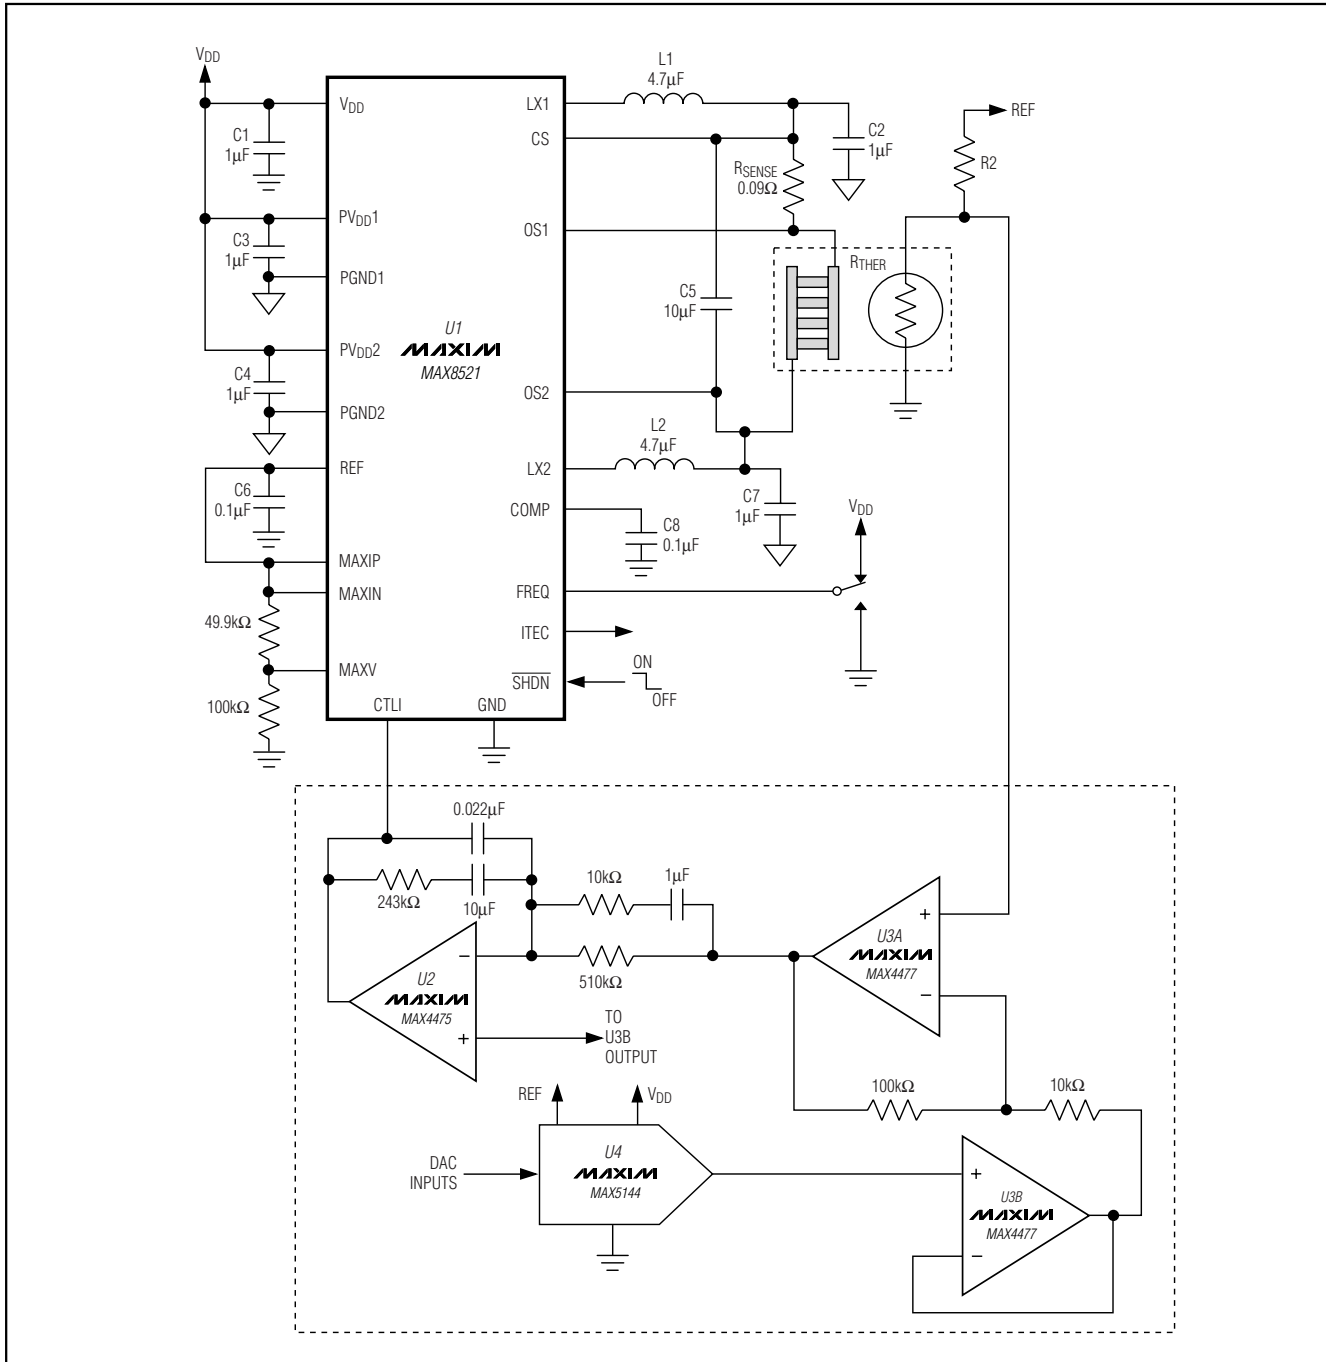

Figure 1. MAX8521 Typical Application Circuit
($V_{DD} = 5V$, circuit of Figure 1, $T_A = +25^\circ C$, unless otherwise noted)
($V_{DD} = 5V$, circuit of Figure 1, $T_A = +25^\circ C$ unless otherwise noted)
The MAX8520/MAX8521 TEC drivers consist of two switching buck regulators that operate together to directly control the TEC current. This configuration creates a differential voltage across the TEC, allowing bidirectional TEC current for controlled cooling and heating. Controlled cooling and heating allow accurate TEC temperature control to within $\pm 0.01^\circ\text{C}$. The voltage at CTLI directly sets the TEC current. An external thermal-control loop is typically used to drive CTLI. Figures 1 and 2 show examples of the thermal control-loop circuit.
Table 1. TEC Connection for Figure 1
The MAX8520/MAX8521 include an on-chip voltage reference. The 1.50V reference is accurate to 1% over temperature. Bypass REF with 0.1 μF to GND. REF can be used to bias an external thermistor for temperature sensing as shown in Figures 1 and 2.
The common-mode filter capacitors (C2 and C7 of Figure 1) are used as filter capacitors to ground for each output. The output ripple voltage depends on the capacitance, the ESR of these capacitors, and the inductor ripple current. Ceramic capacitors are recommended for their low ESR and impedance at high frequency.
The differential-mode filter capacitor (C5 in Figure 1) is used to bypass differential ripple current through the TEC as the result of unequal duty cycle of each output. This happens when the TEC current is not at zero. As TEC current increases from zero, both outputs move away from the 50% duty-cycle point complementarily. The common-mode ripple decreases, but the differential ripple does not cancel perfectly, and there is a resulting differential ripple. The maximum value happens when one output is at 75% duty cycle and the other is at 25% duty cycle. At this operating point, the differential ripple is equal to 1/2 of the maximum common-mode ripple. The TEC ripple current determines the TEC performance, because the maximum temperature differential that can be created between the terminals of the TEC depends on the ratio of ripple current and DC current. The lower the ripple current, the closer to the ideal maximum. The differential-mode capacitor provides a low-impedance path for the ripple current to flow, so that the TEC ripple current is greatly reduced. The TEC ripple current can then be calculated as follows:
There are numerous ways to implement the thermal loop. Figures 1 and 2 show designs that employ precision op amps, along with a DAC or potentiometer to set the control temperature. The loop may also be implemented digitally, using a precision A/D to read the thermistor or other temperature sensor, a microcontroller to implement the control algorithm, and a DAC (or filtered-PWM signal) to send the appropriate signal to the MAX8520/MAX8521 CTLI input. Regardless of the form taken by the thermal-control circuitry, all designs are similar in that they read temperature, compare it to a set-point signal, and then send an error-correcting signal to the MAX8520/MAX8521 that moves the temperature in the appropriate direction.
- 6) To ensure high DC loop gain and minimum loop error, keep the board layout adjacent to the negative input pin of the integrator (U2 in Figure1) clean and free of moisture. Any contamination or leakage current into this node can act to lower the DC gain of the integrator, which can degrade the accuracy of the thermal loop. If space is available, it can also be helpful to surround the negative input node of the integrator with a grounded guard ring.